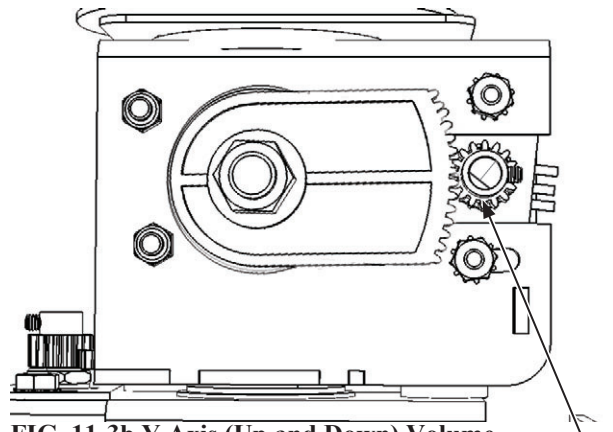

FIG. 11-3b Y Axis (Up and Down) Volume
- 4 With the gear disengaged and the Control Unit's pointing in the upper most position, make sure that the D-Cut in the Volume pot is positioned as it is in FIG 11-3b